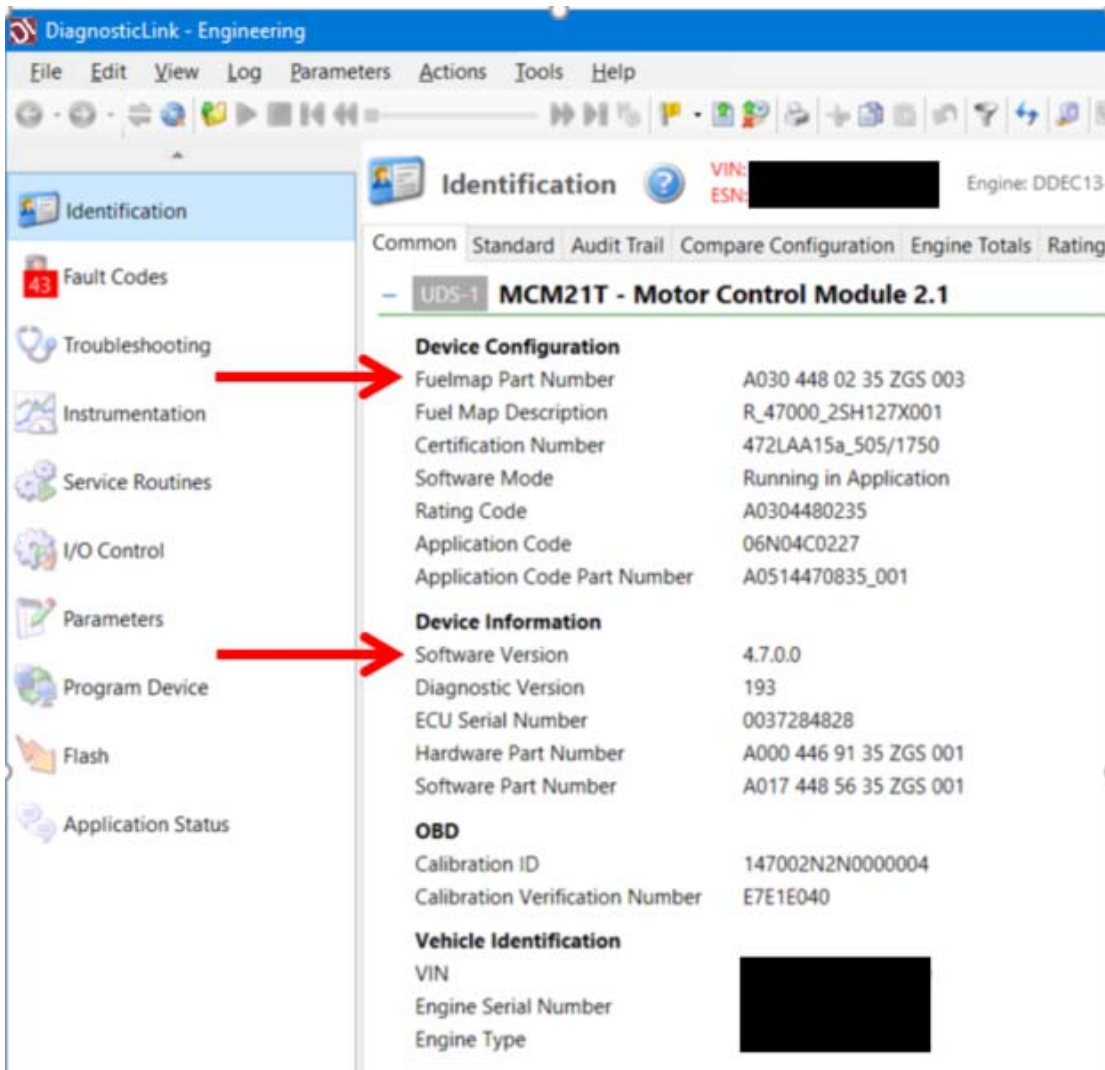

Figure 1 – DiagnosticLink® Identification Screen
5. On the Identification screen, check the current MCM, ACM, CPC, and if applicable the TCM, software. Listed below are the **MINIMUM** levels required. See Figure 1 for an example of the Identification screen.
6. Is the **software** level for all modules less than, equal to, or higher than the software levels listed in step 5? For example in Figure 1, MCM software 4.7.0.0 with ZGS 003, which equal to required software of 4.7.0.0, but less than the required ZGS 005.